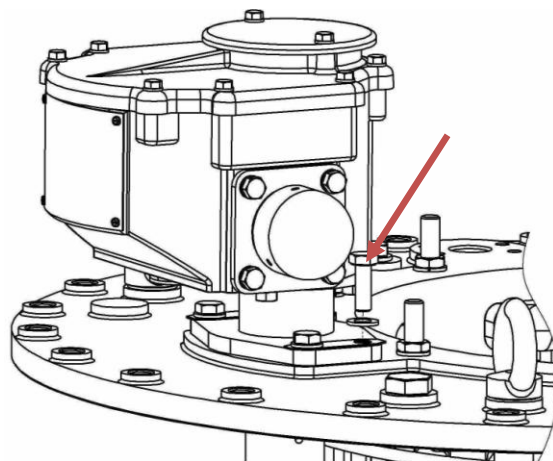

Fig.25 – Bolts for installation of the worm gear box.
6.19. Install the worm gear box using washers and M10 bolts (25 Nm torque). See Fig. 25.